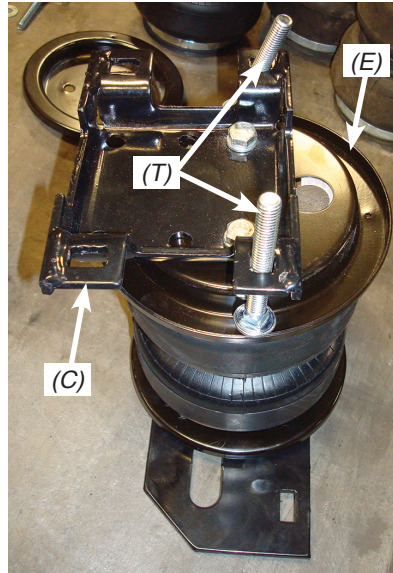
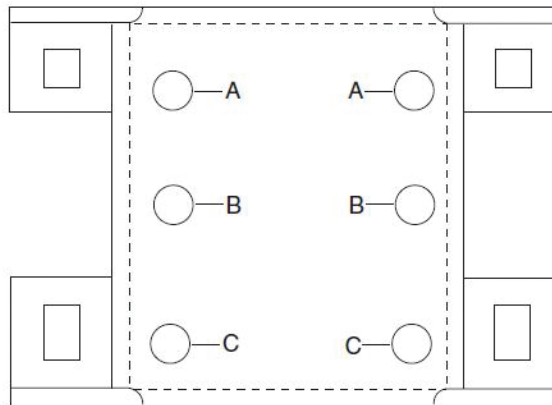

fig. 9
fig. 10
1. Flip the assemblies over; set a Roll Plate (E) onto the bottom of the Air Spring assembly (fig. 9).
2. Insert two 3/8-16 X 3.0" Carriage Bolts (T) into the lower bracket as shown and set the Lower Bracket (C) using holes "A" (fig. 10) so that the lower bracket is offset from the fitting (on the opposite (top) end of the assembly) (fig. 9). Attach the lower bracket with 3/8 Lock Washers (U) and two 3/8-24 X 3/4" Hex Bolts (V). Torque to no more than 20ftlbs.